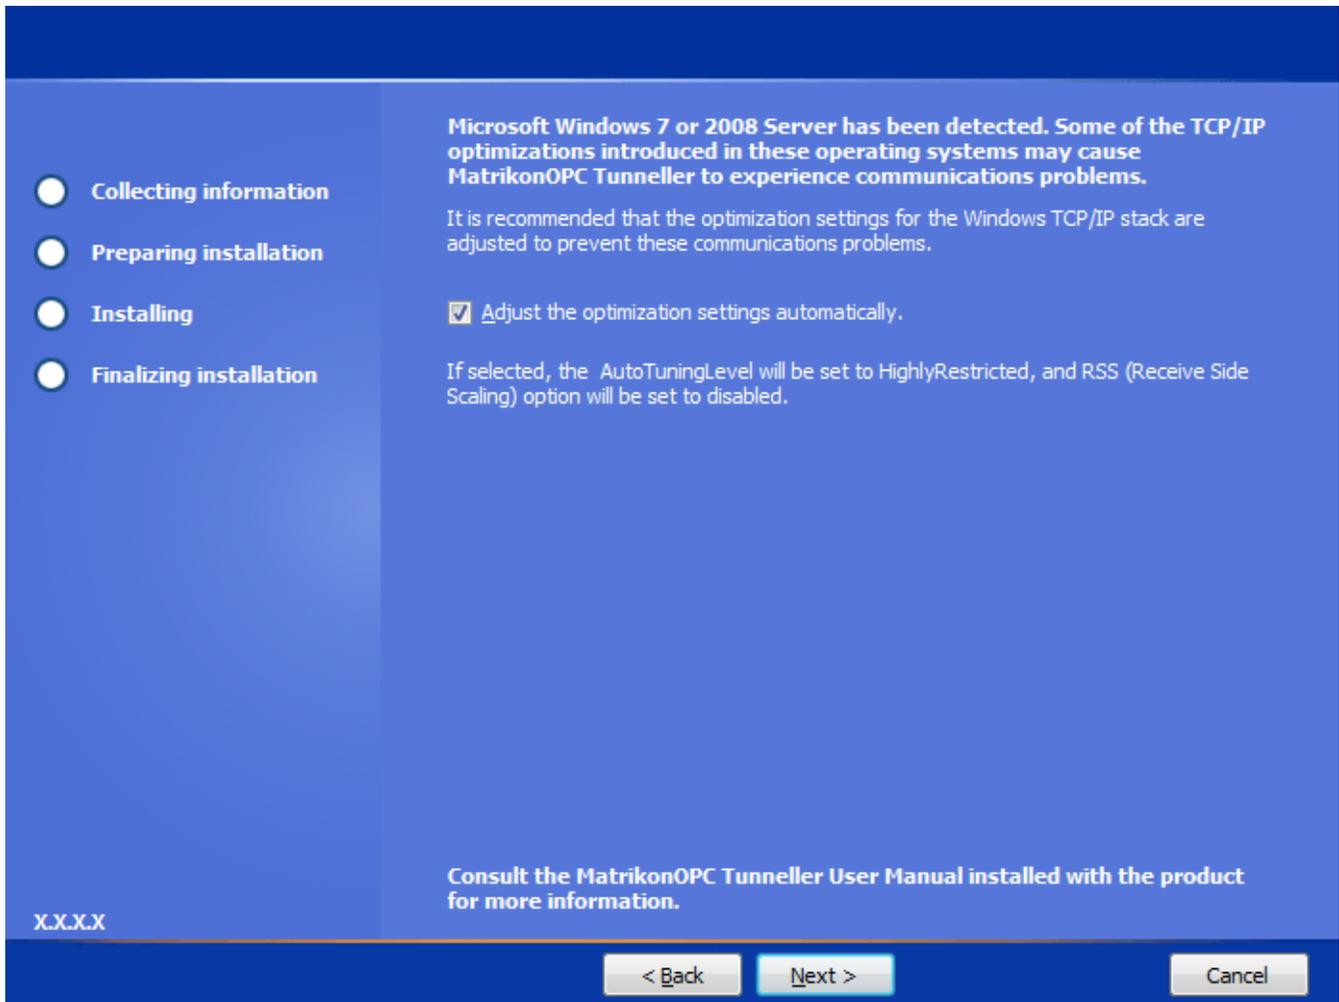

Figure 29 - TCP/IP Settings Screen
18. Click on the **Next** button. For Windows 7 or Windows Server 2008, the **TCP/IP Settings** screen (Figure 29) appears. If neither of those operating systems are detected, ignore this step and proceed to step 19.